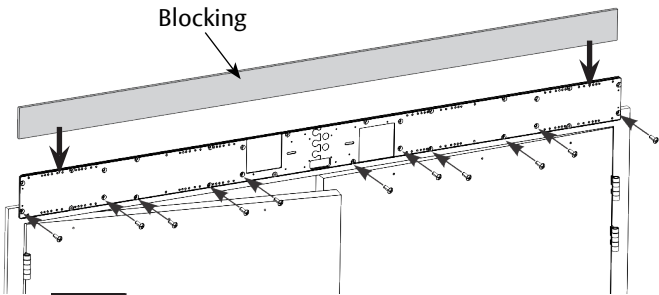

Figure 7
- 1. Secure backplates to frame using eleven (11): 1/4-20 x 5/8" machine screws or 1/4 x 1-1/2" self-drilling screws from screw packs in Boxes 1 and 2 (Figure 7).
NOTE: It is important to properly secure top edge of backplate. Use of blocking (supplied by others) or shims (provided) to fill gap between backplate and wall above header is **HIGHLY** recommended. Material must comply with local codes. Failure to properly secure top of backplate could result in operator being allowed to 'rock' during operation. This could result in damage to operator and diminish operator function. (Figure 7)